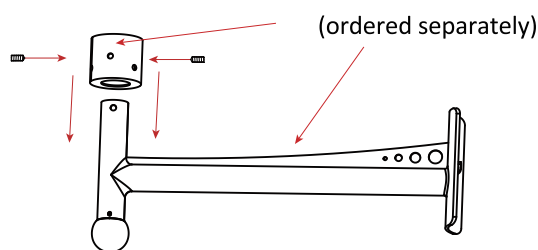

Fig. 10
3. Secure the $\phi 76$ tube adapter to the straight arm with two M8 screws. See Fig. 10.